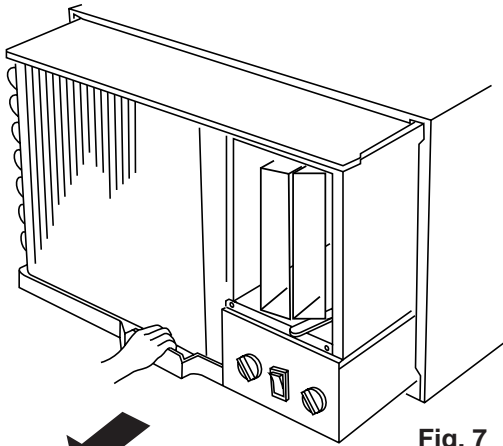

Fig. 7
- (4) While holding top of the cabinet with one hand, grasp the handle with another hand and pull the unit toward you. (Fig. 7)